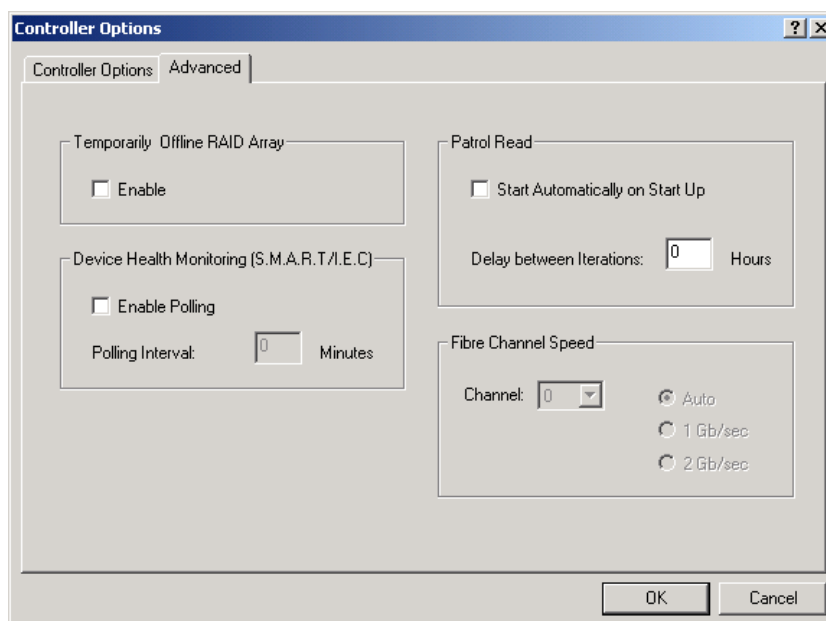

Figure 4-3. Advanced Controller Options Dialog Box for new PCI DAC
1. Select the Advanced Controller Options tab (Figure 4-3).